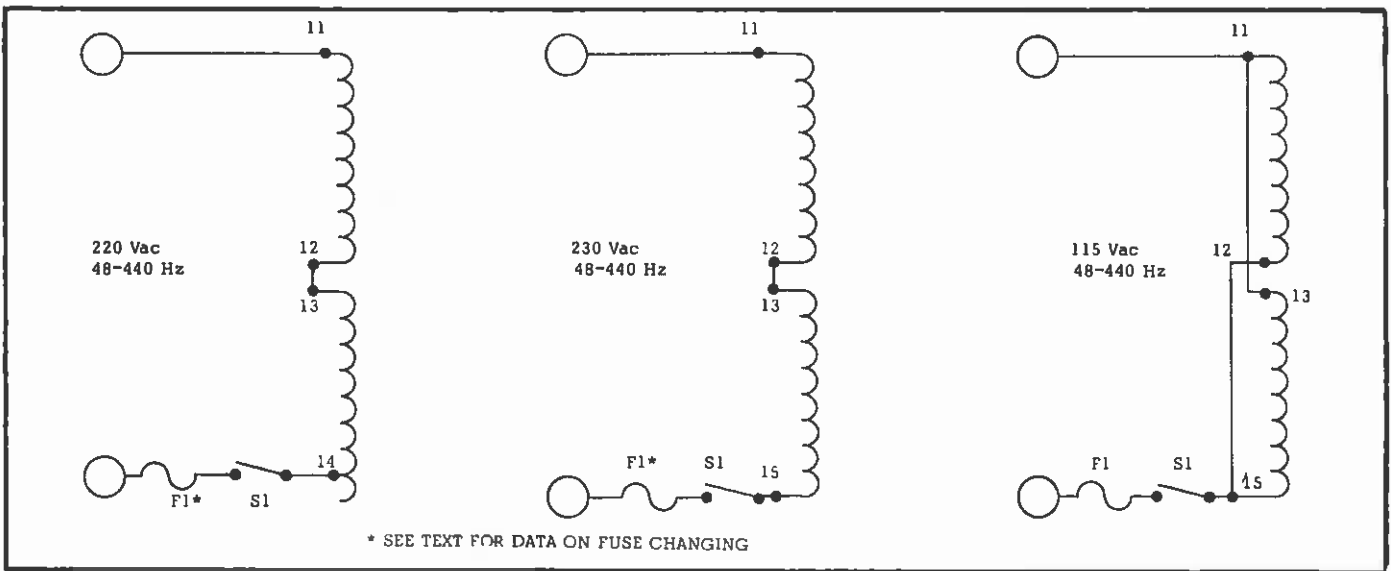

Figure 2-3. Alternate Input Connections
- b. At transformer T1, remove jumpers across taps 11 and 13, and 12 and 15 (Figure 2-3).